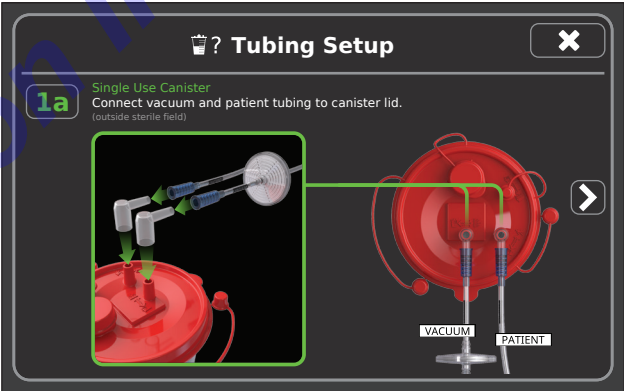

Figure 43 – Tubing Setup Screen
3. Touch the NEXT button or PREVIOUS button to navigate through the setup information (Figure 43).